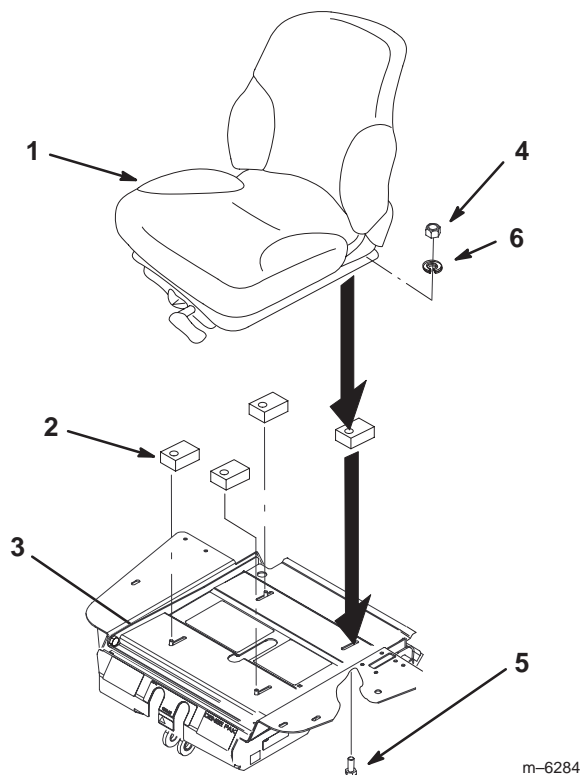

Figure 1
1. Remove the bolt, spacer, lock washer, and nut from the bottom of the seat (Fig. 1).
2. Position the spacer blocks and seat onto the seat pan (Fig. 1).
3. Install the bolts up into the seat pan, spacer blocks, and the seat (Fig. 1).
4. While holding the bolts, secure the seat with lock washers and nuts (Fig. 1).